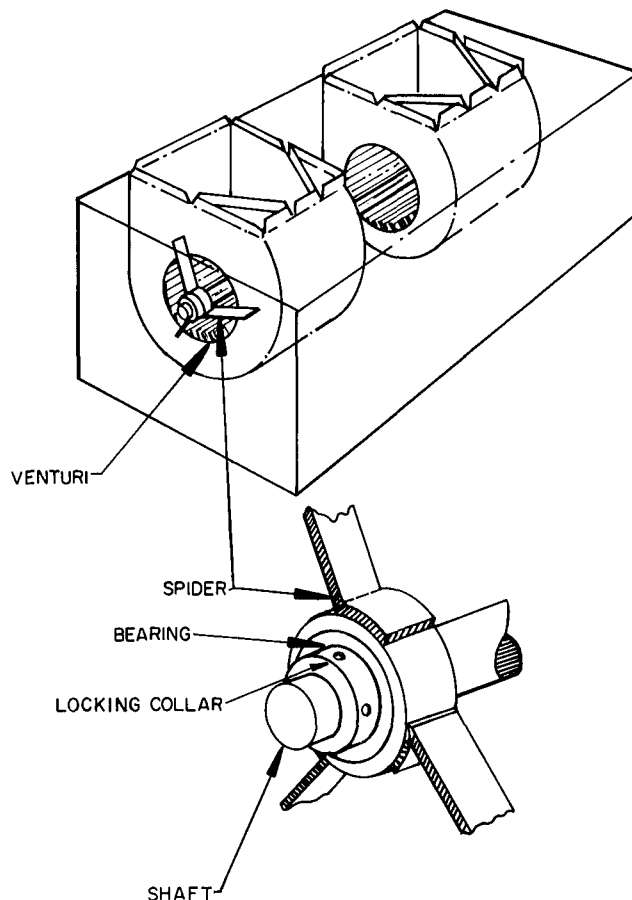

Fig. 14 — Fan Shaft Bearings — 004, 006, 008, 012, 016, 024
Unit Sizes 50BA, BB004 thru 024 — Shaft bearings are supported by spider (Fig. 14). If shaft and wheels are concentrically misaligned from shipping shock, it is possible to rebend spider arms to original positions. Replace the spider if it has been extensively damaged by shipping shock.
1. Loosen the setscrews holding bearing locking collar at each end of shaft (Fig. 14 or 15).